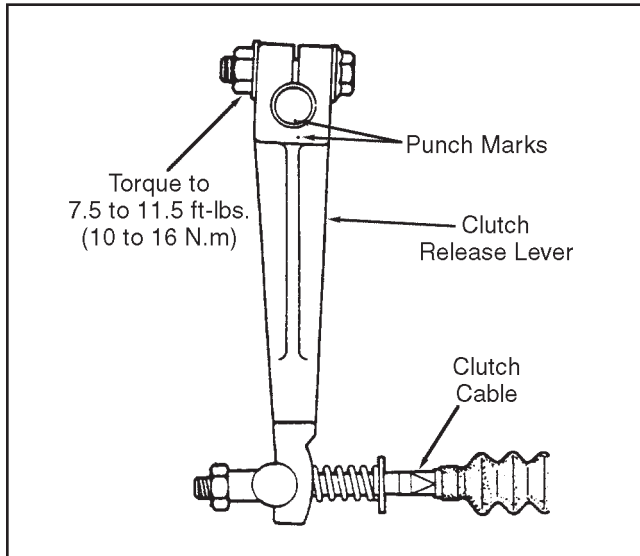

Figure 4D-8. Clutch Release Lever Installation
6. Hook the return spring (Figure 4D-3) onto the clutch release lever.